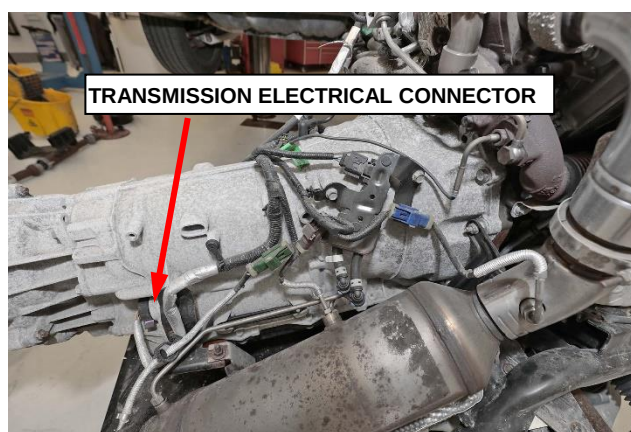

Figure 41 – Transmission Electrical Connector
87. Remove the transmission electrical connector and transmission harness retainers. Unclip all the remaining wiring harness from the transmission (Figure 41).
23. Connect the 13 pin plug connector and turn the connector clockwise to engage (Figure 41).